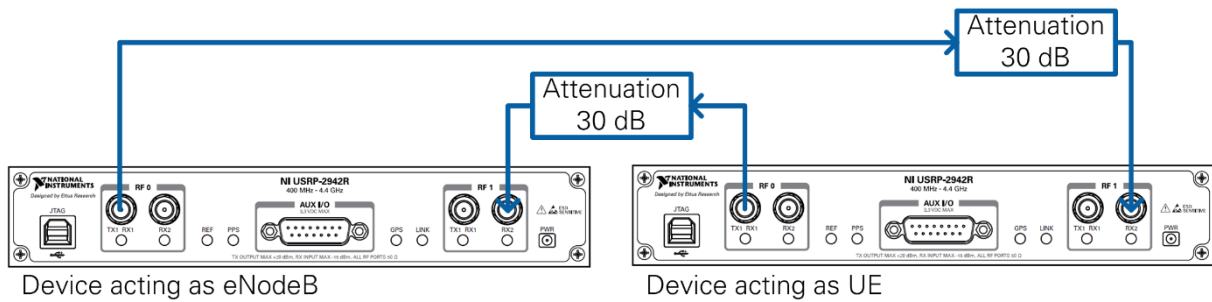

Figure 13 Cabled Connection of Two USRP Devices
2. Create a RF connection as shown in Figure 13: